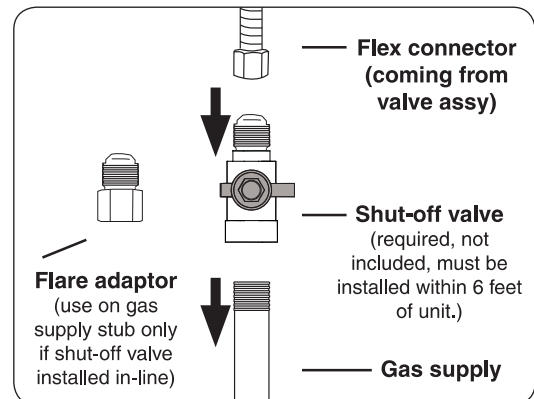

Fig. 15-4 Connecting to a gas line
Note: A shut-off valve (not included) in the gas line is required. It must be installed within 6 feet of the unit. Use a pipe joint compound resistant to all gasses on all male fittings except flare fittings. See Fig. 15-4 for an example.
- Connect the flex connector to the shut-off valve (see Fig. 15-4). Tighten securely.
- Install the supplied flare adaptor to the gas supply using a pipe joint compound resistant to all gasses (see Fig. 15-4). Tighten securely.
- Connect the flex connector to the flare adaptor (see Fig. 15-4). Tighten securely.